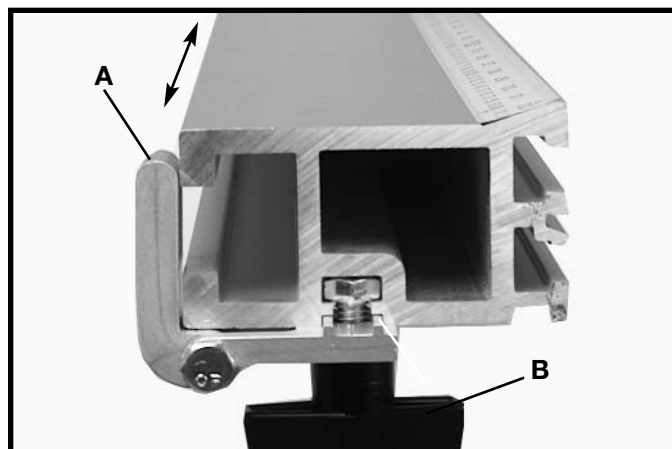

Fig. 67
1. The Rail Stop Assembly Fig. 67 (A) can be adjusted to any number of positions along the guide rail providing a quick stop setting for the Unifence body by loosening knob (B) and sliding the stop along the rail to the desired position (←→) and re-tighten.